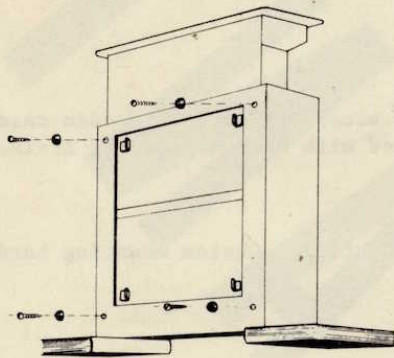

FIGURE 2
(2) Install the longer, 1" sheet metal screws in the feet in place of the  $\frac{5}{8}$ " screws. Start the screws into the holes (see note below). DO NOT TIGHTEN. Correctly position the unit in the case and install the rubber spacers between the unit and the case near the screws, where needed to hold the set in position. SEE FIGURE 2. Tighten the feet and screws so that they are SNUG. Do not overtighten.